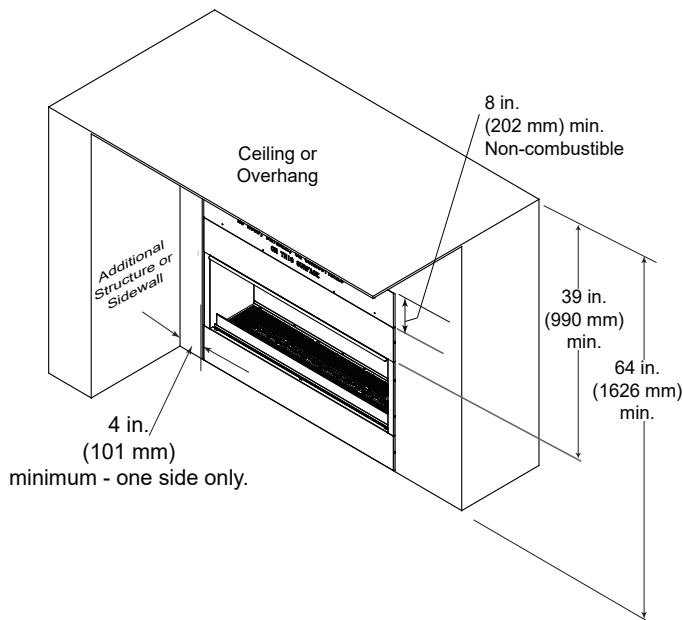

Figure 3.4 Clearances to Combustibles
- Noncombustible wall sheathing material is required 8" above the appliance. (See Figure 3.4)